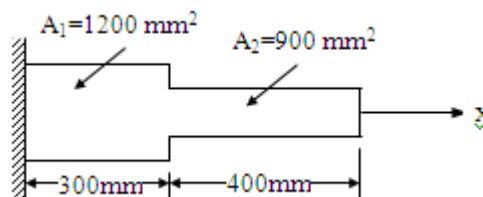

Fig. 8
8. Consider axial vibration of the steel bar shown in Fig.8, (i) develop the global stiffness and mass matrices and (ii) determine the natural frequencies and mode shapes using the characteristic polynomial technique. Take $E = 200\text{GPa}$, $\rho = 7840\text{kg/m}^3$